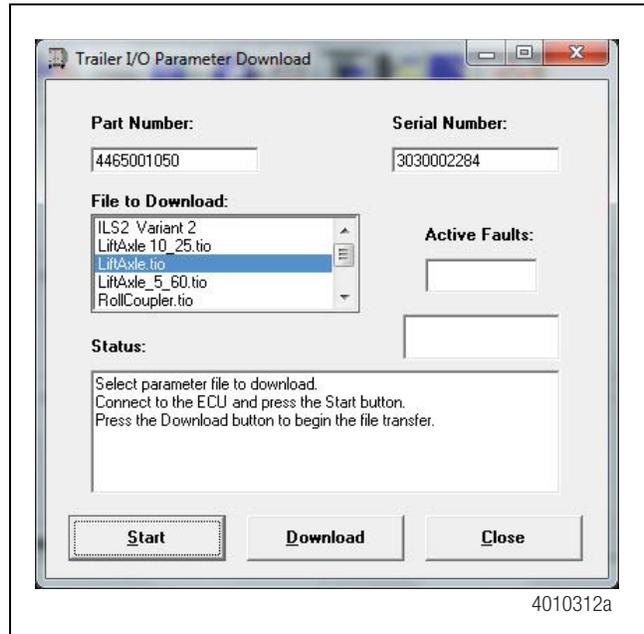

Figure 12
2. From the Parameter Download screen, select "LiftAxle.tio". Press the **Start** button and it will enable the **Download** button. Press the **Download** button to begin the process. Figure 12.